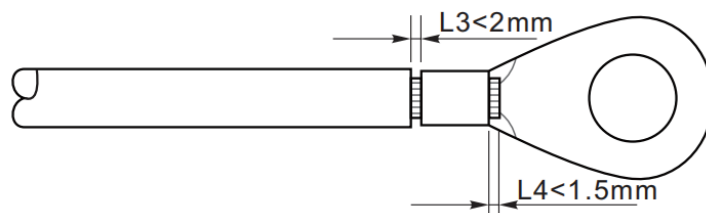

Figure 5-3 Grounding connection instruction (2)
Step 2: Insert the exposed core wires into the OT terminal and crimp them by using a crimping tool, as shown as figure 5.3. Recommend using OT terminal: OT M6, Cable: $\geq 6\text{mm}^2$.